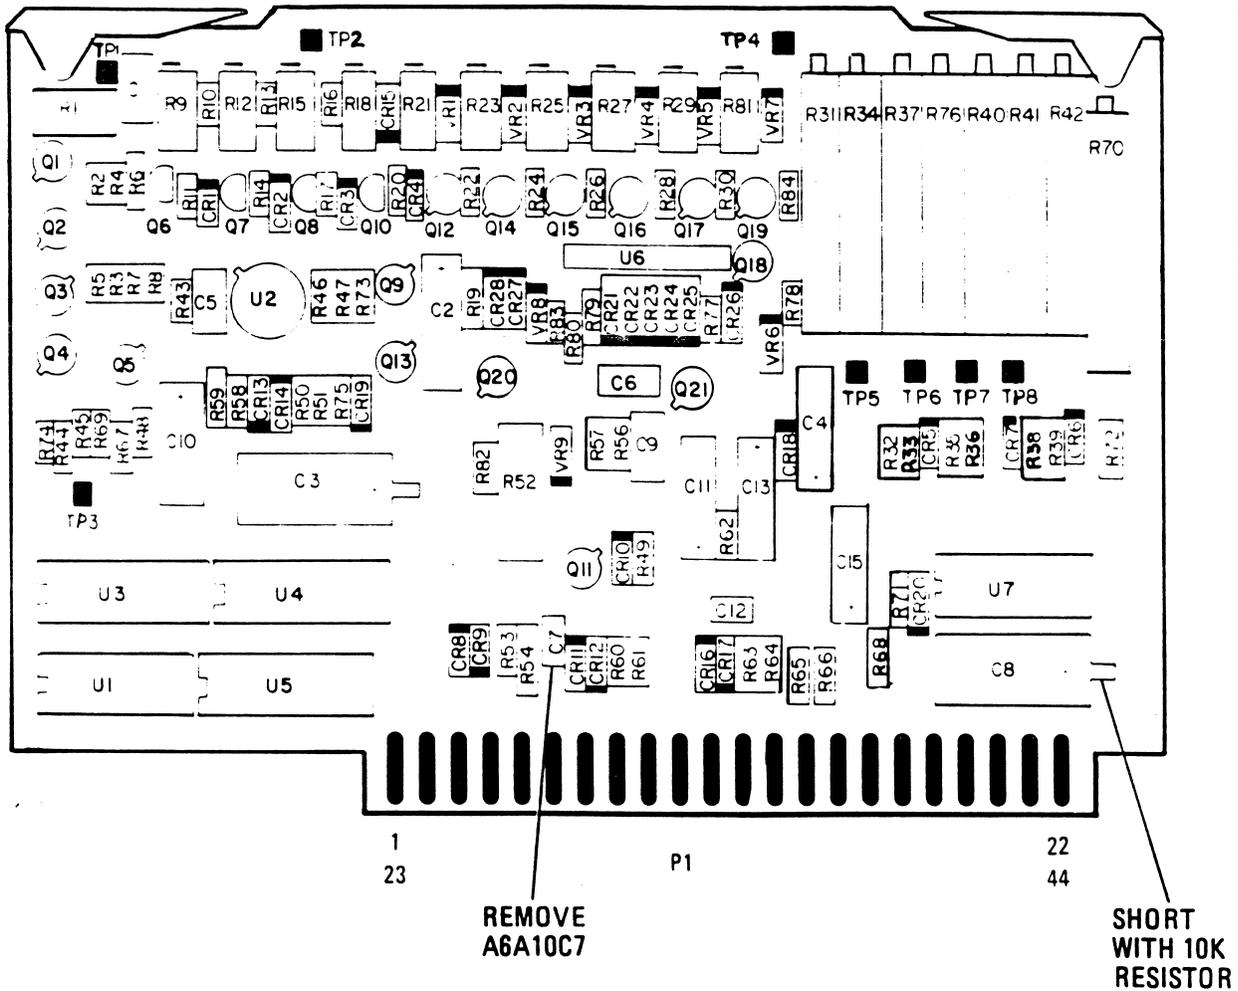

Figure 11. A6A10 Miscellaneous Bias/Relay Driver, Component Locations
- b. Remove A6A10 Miscellaneous Bias/Relay Driver Assembly from RF Section. Using 10K resistor included in RF Attenuator Retrofit Kit, momentarily short leads of capacitor A6A10C8 (Figure 11) to drain off residual +22 Vdc charge before setting assembly aside.
- m. As shown in Figure 11, remove and discard capacitor A6A10C7 (HP Part Number 0160-3879, CAPACITOR-FXD .01 uF 100 VDC CER) from A6A10 Miscellaneous Bias/Relay Driver Assembly.